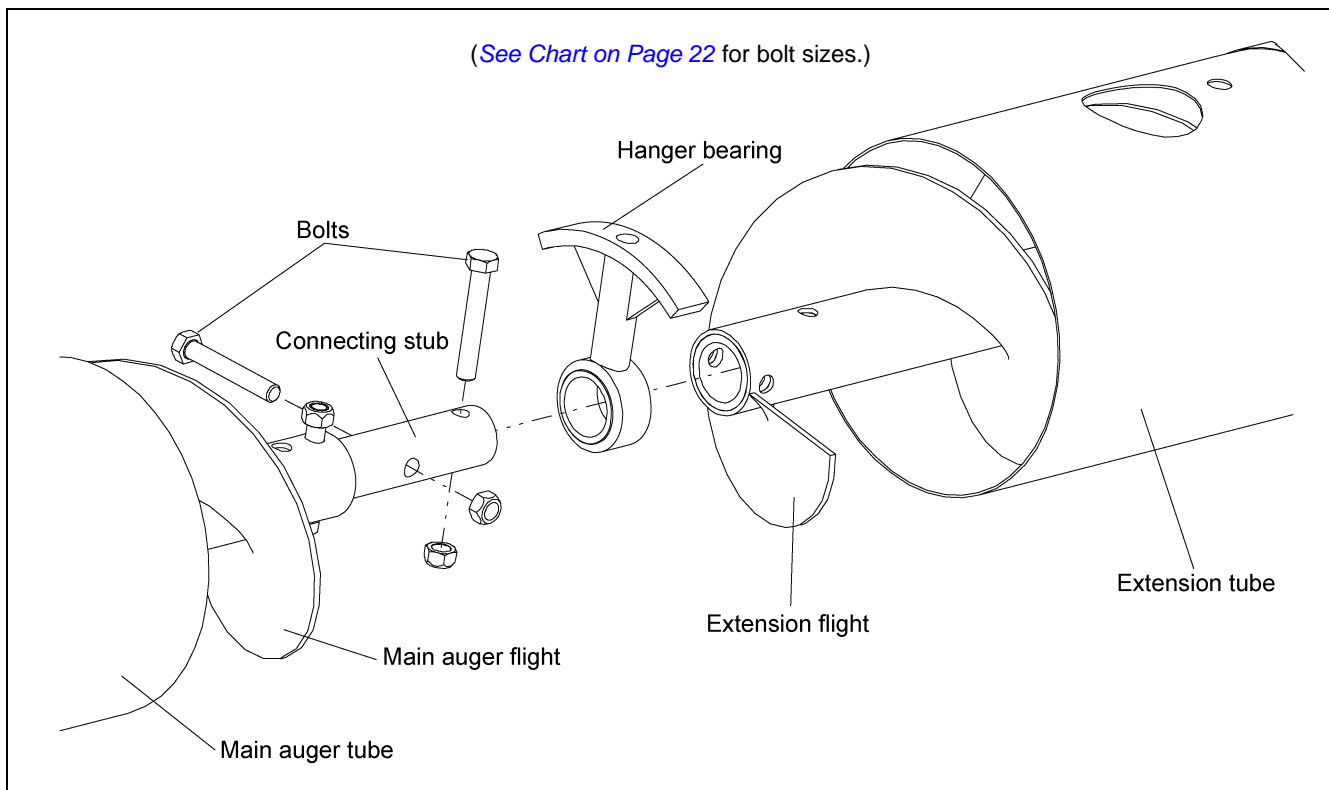

Figure 4R
- Slide hanger bearing onto connecting stub, followed by extension flight. Bolt extension flight to connecting stub using assigned hardware. (See Chart on Page 22 and Figure 4R.)